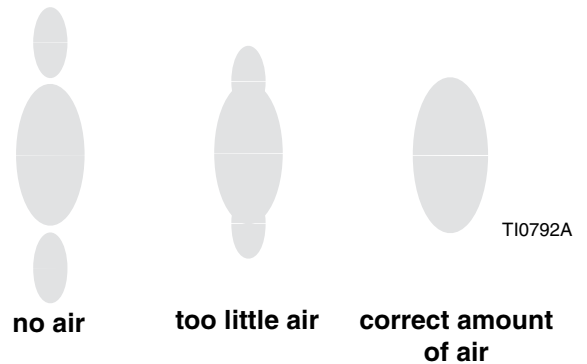

FIG. 15
5. Set the atomizing air pressure at about 5 psi (0.35 bar, 35 kPa) when triggered. Check the spray pattern, then slowly increase the air pressure until the tails are completely atomized and pulled into the spray pattern. See FIG. 15. Do not exceed 100 psi (0.7 MPa, 7 bar) air pressure to the gun.